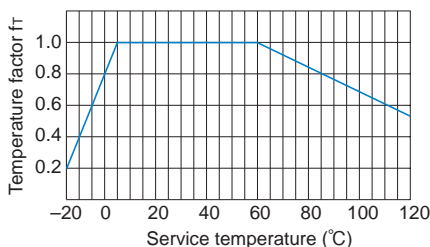

Fig.2 Temperature Factor
If the temperature of the change nut exceeds the normal temperature range, the seizure resistance of the nut and the strength of the material will decrease. Therefore, it is necessary to multiply the dynamic permissible torque (T) and the dynamic permissible thrust (F) by the corresponding temperature factor indicated in Fig.2.
fr : Temperature factor (see Fig.2)